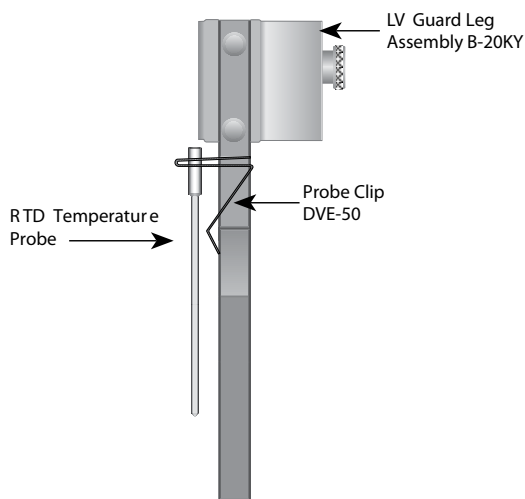

Figure J-2
Figure J-2 shows the Probe Clip (with RTD temperature probe installed) mounted on the LV guard leg.
- ✓ Press ENTER/AUTORANGE key and Figure J-2 appears.